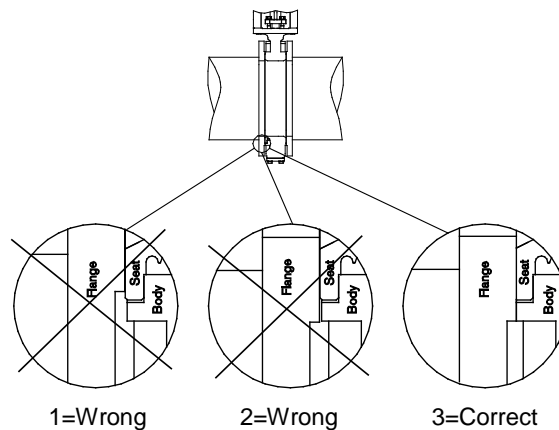

Fig. 6
- Tighten the bolts first manually and then evenly and crosswise, for a uniform load of the gasket, with a torque as required by the gasket manufacturer. Valve type **SLV, SLF, SLH and SLX** shall be assembled with the mating surfaces of the valve body and the pipe flanges up to metal/metal contact. See fig. 6.